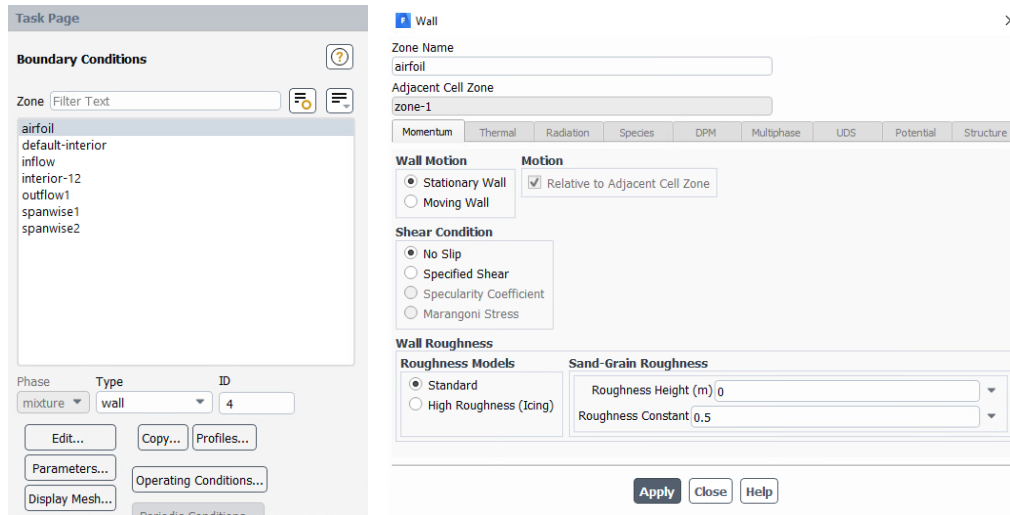

Figure 11. Setting up the wall boundary condition.
2.9.4. In the **Task Page** pane, click on **airfoil**. Make sure the Type is set to “wall”. Click on the **Edit...** button. In the **Wall** popup window, the Wall Motion option should be set to “Stationary Wall” and the Shear Condition option to “No Slip”, as shown in Figure 11. Click **Apply** and Close.